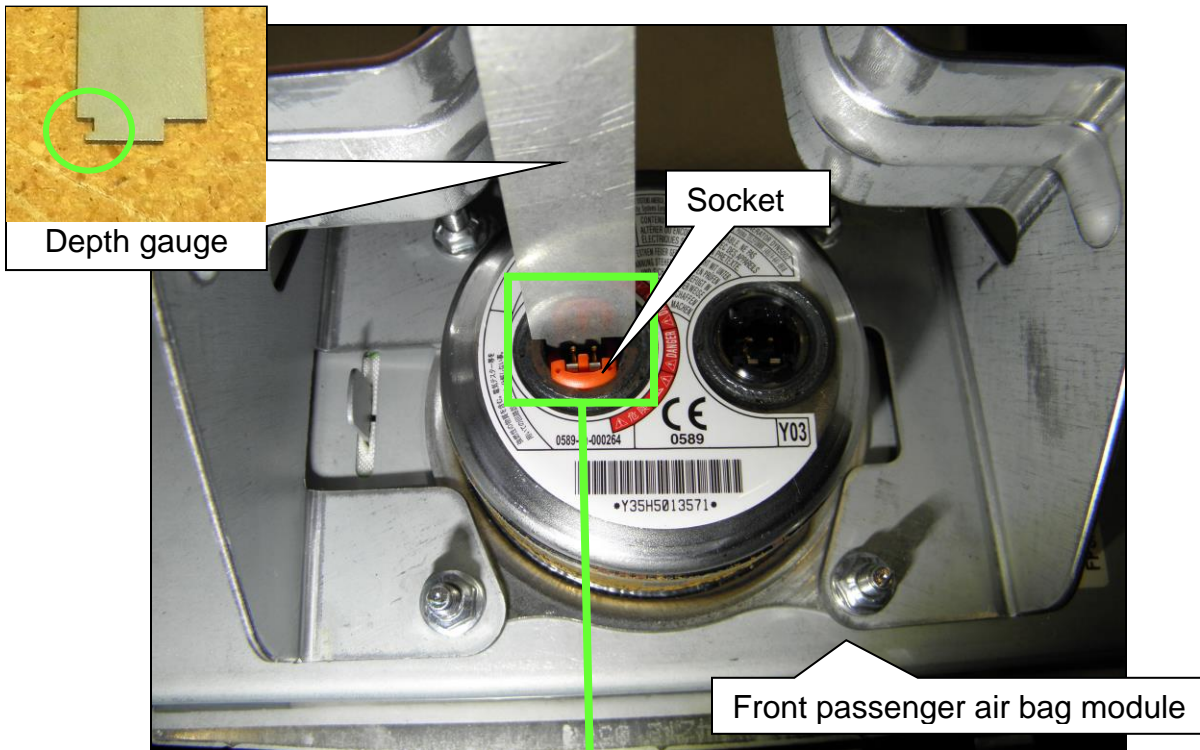

Figure 3
- b. Slide the depth gauge sideways into the socket groove as shown in Figure 3 and 4 below and Figure 5 on the next page.